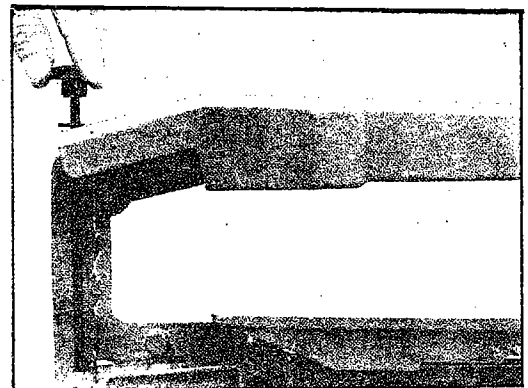

FIGURE 9
1. Release tension knob by turning it counter clockwise until the blade assembly is loose. See Figure 9.